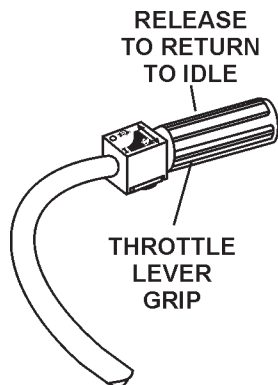

Figure 17. Throttle Lever (SLOW)
2. Release the throttle lever grip, it will automatically return to the **IDLE** position (Figure 17).